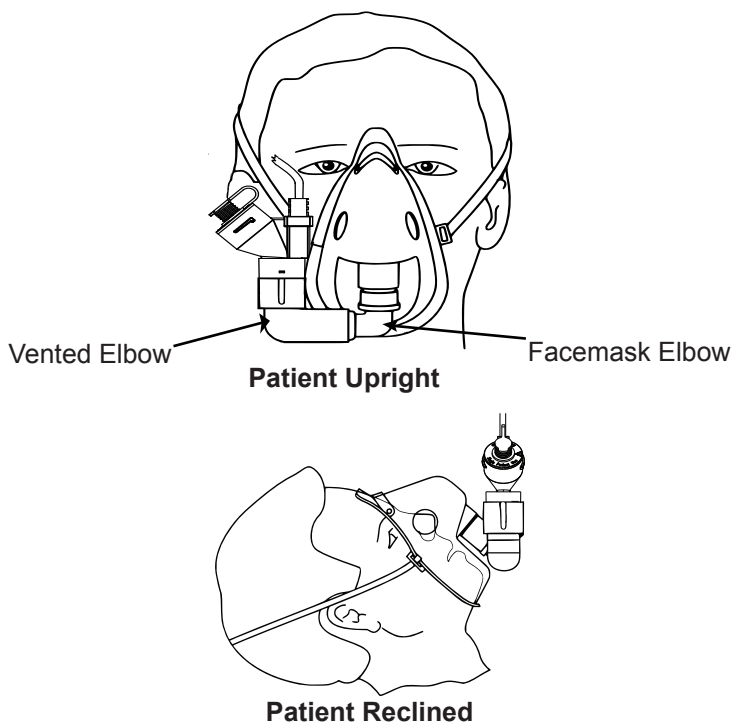

Figure 14: Connecting to a mask
2. Rotate the vented elbow to suit the position of the patient (Figure 14).
CAUTION: To ensure proper nebulization, maintain the nebulizer in a vertical orientation (Figure 14).